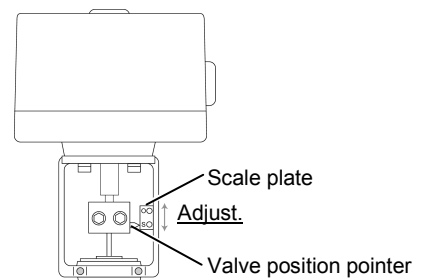

Figure 7. Adjusting the scale plate position
5. Adjust the position of the scale plate so that the valve opening pointer points to S on the scale plate. To move the scale plate, loosen the screw fixing the scale plate on the yoke. (See Fig. 7.)